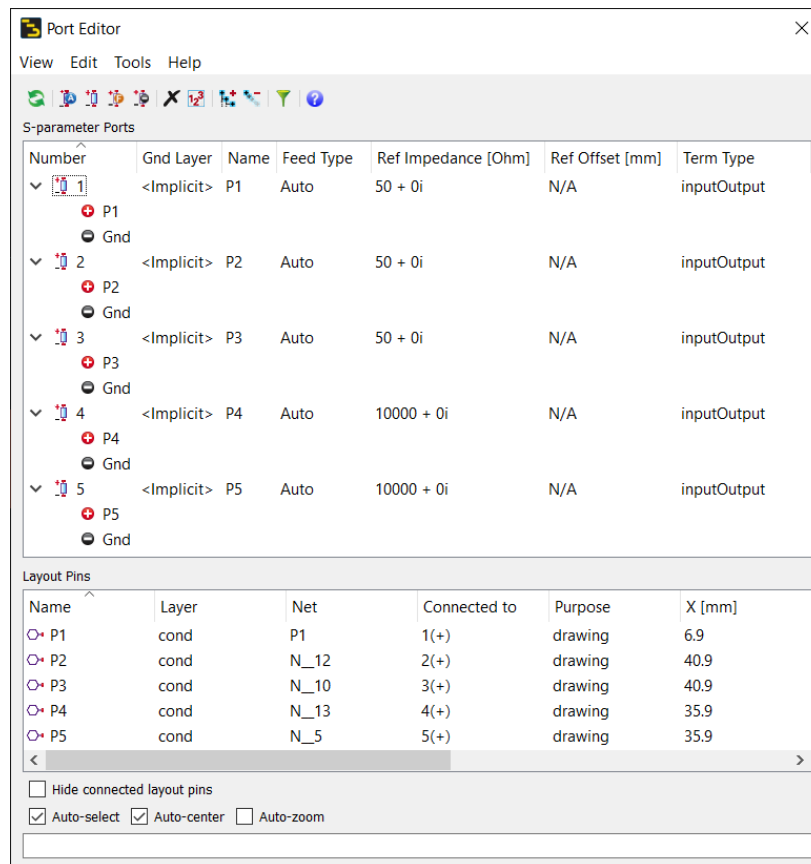

Figure 17. Port Editor showing changed reference impedance for Ports 4 and 5
4. When a new port is created, it is set to 50 Ω by default. However, because Ports 4 and 5 will be connected to a discrete component in the schematic view, the ports need to be defined as having infinite impedance. To do this, open the **Port Editor** (next to the Substrate icon or **EM > Port Editor**). Change **Ref Impedance** to **10000** (units are ohms) for Ports 4 and 5. This is shown in Figure 17.